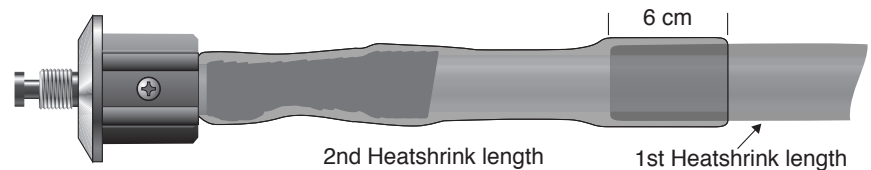

Figure 27.
11. Place the 2nd 600 mm heatshrink tube into place over the cable, again ensuring that the semi-conductive tape is not damaged, overlapping the previous heatshrink tube by approximately 6 cm. Shrink about 7 cm of the upper end of the heatshrink into place so that it will sit flush with the base of the plastic mast butt adaptor when fitted back into place. Note: That there is a mark on the lower finial connector indicating where the heat-shrink needs to be fitted to. Shrink the rest of the heatshrink from the top down, ensuring that it overlaps the previous piece of heatshrink by at least 6 cm Figure 27. Ensure the rest of the heatshrink has a smooth overall finish. Note: Do not bend the cable while the heat shrink is still hot.